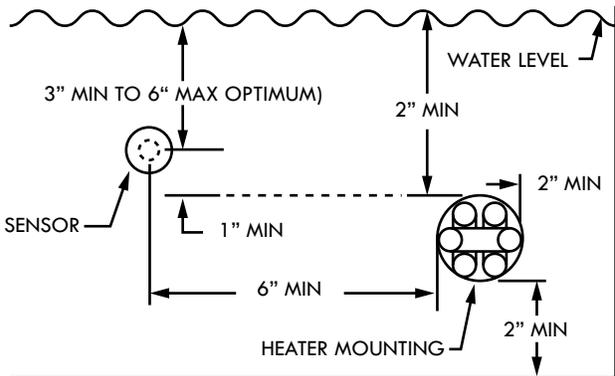

Figure A-56: Recommended basin heater mounting
- Two inch hubs are used to insert the heater and a combination temperature/liquid level sensor in the stainless steel couplings located at the basin (identified with labels). Immersion heater should be located 2 inches (minimum) above the basin bottom. The access port for the combination temperature/liquid level sensor should be one inch (minimum) above the heater but below the water level. (See Figure A-56 for recommended distances and mounting).